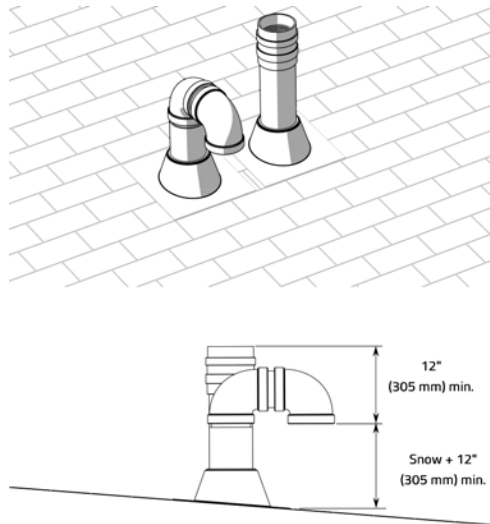

Figure 15 Rooftop vent terminal configurations
- » Where an exhaust passes through a sidewall too close to a soffit, the venting must extend past the soffit by transitioning to vertical as shown in Fig. 15..